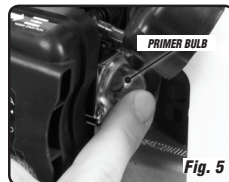

Fig. 5
4. Press the Primer Bulb slowly 6 times (see Fig. 5).